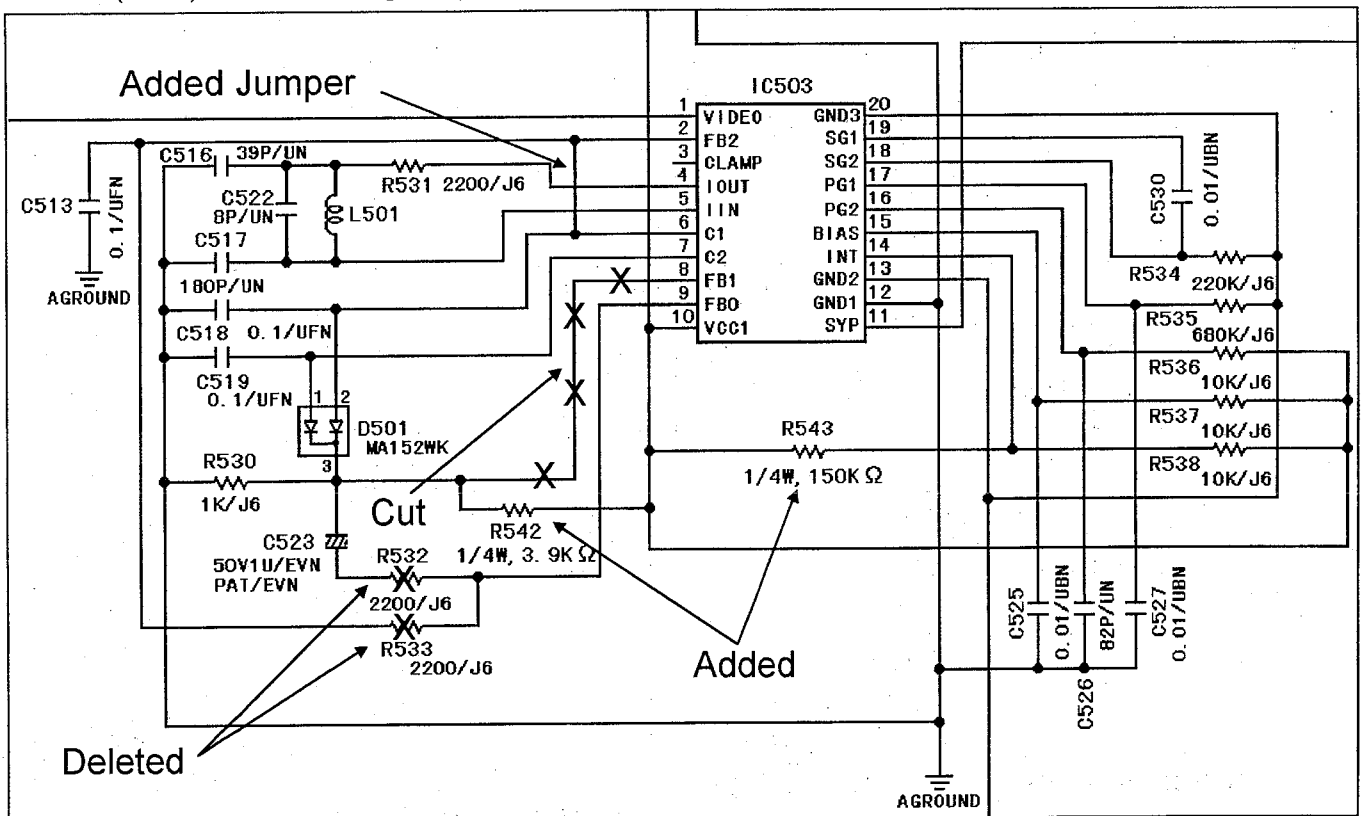

Fig. 4 Page 2-94
- 4). Add a resistor R542 (1/4W, 3.9K Ω) between pin #10 of IC503 and cathode of D501 on the foil side as shown in figures 4 and 6.
- 5). Add a resistor R543 (1/4W, 150K Ω) between pins #10 and #14 of IC503 on the foil side as shown in figures 4 and 6.
- 7). Connect a jumper wire between pins #2 and #6 of IC503 on the foil side as shown in figures 4 and 6.
- 4). Add a resistor R542 (1/4W, 3.9K Ω) between pin #10 of IC503 and cathode of D501 on the foil side as shown in figures 4 and 9.
- 5). Connect a jumper wire between pins #2 and #6 of IC503 on the foil side as shown in figures 4 and 9.